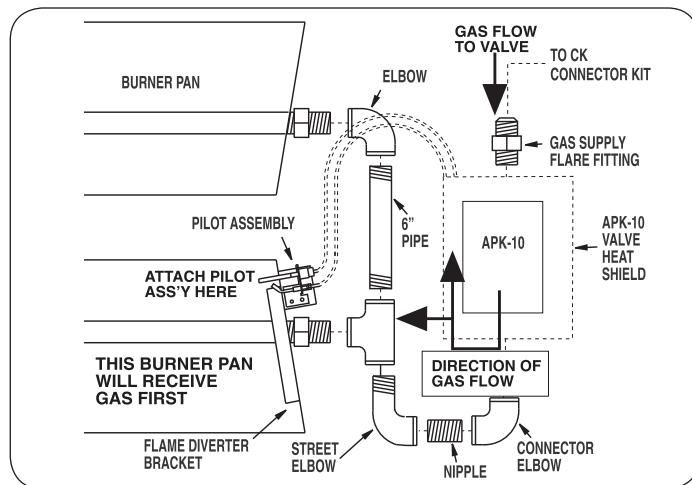

Fig. 3-1
- Attach the street elbow and 3/8" nipple to the burners manifold (see Fig. 3-1).
- When the valve is connected, for correct and safe lighting, attach the pilot assembly to the **first pan that will receive gas** during operation (see Fig. 3-1)